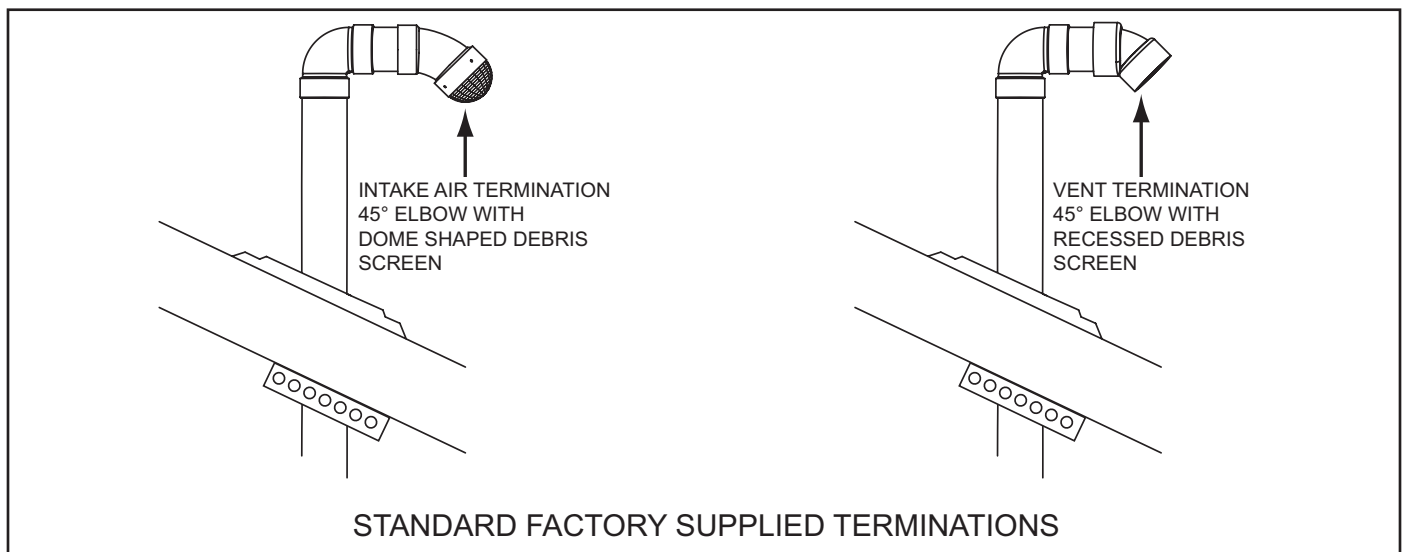

Figure 18
**NOTE:** The standard vent and intake air terminations are of different design, see Figure 18.
**NOTE:** The standard vent and intake air terminations are of different design, see Figure 18 on page 25.